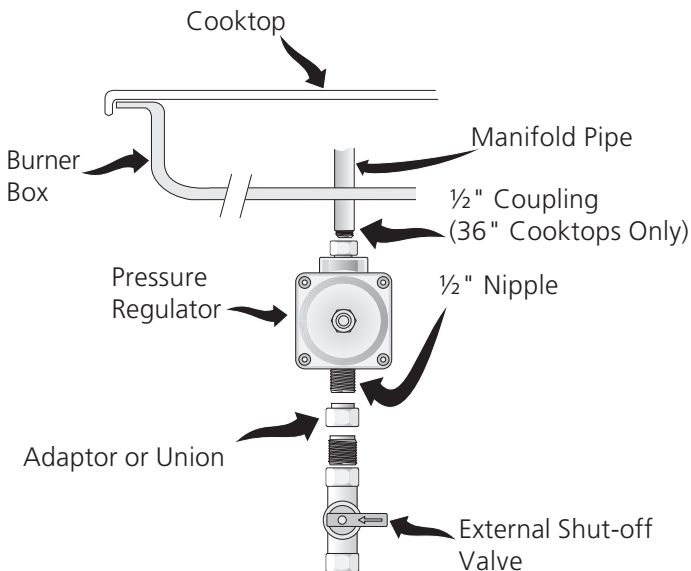

Figure 7
B. 30" and 36" Cooktops (see figure 7)